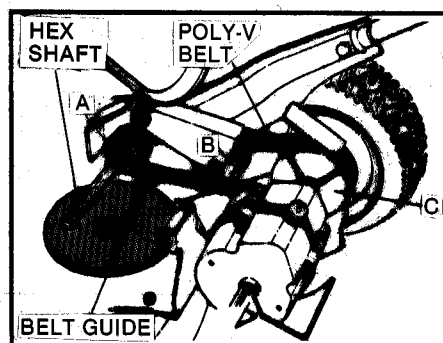

FIG. 18 - POLY-V BELT REPLACEMENT
**POLY-V-BELT REPLACEMENT:** The driven disc assembly must be removed first. Note the arrangement of the old belt around the three pulleys before cutting and removing it. Slip the replacement belt over the end of hex-shaft and onto pulley (A). Then work it onto idler pulley (B) and twist it sideways and pull upward between the differential bracket and transmission pulley (C) and then down into the pulley's groove. Make sure the belt is in each pulley's groove! Refer to FIG. 18.